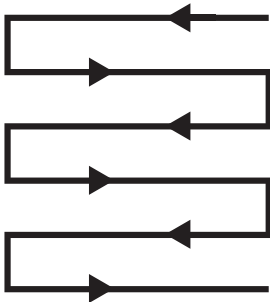

Fig. 22
- 5. Mow in slight overlapping rows. The most effective pattern for mowing lawns is straight lines along one of the sides. This will keep the rows even and ensures that all the lawn is cut without missing any spots (Fig. 22).
1. Keep the underbody and cutting device (25) clean and free of debris. Remove clippings from the discharge chute (26).
3. Keep the cutting device (25) sharp to ensure a good cutting performance. Replace a worn or damaged cutting device with a new one of the same type or have it sharpened by a qualified specialist.
4. Loosen the hex bolt (25f) anti-clockwise using a suitable wrench and remove it together with the locking flange (25e), cutting device (25), support (25d), ring (25c) and pin (25b) (Fig. 22).